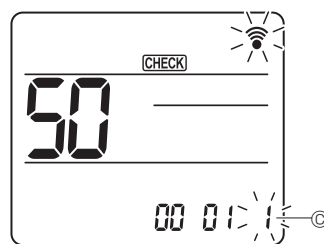

Fig. 6-19
- ④ Selecting the setting number
Use the [DOWN] button to change the Setting number ③. (Fig. 6-19)